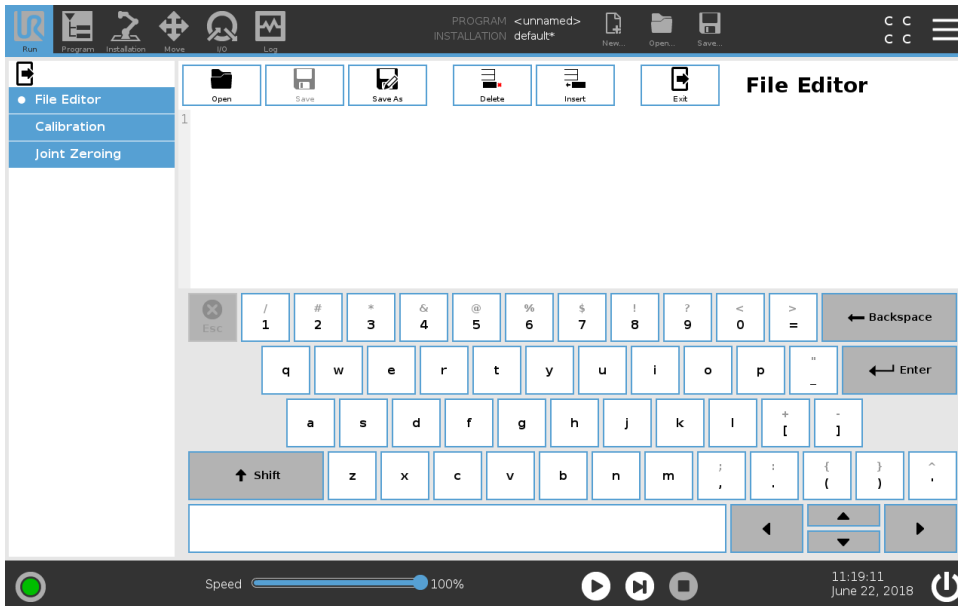

Figure 2.7: Select **Calibration** in **Expert Mode**.
- (12) In the Side Menu on the left, tap **Calibration**. See Figure 2.7.